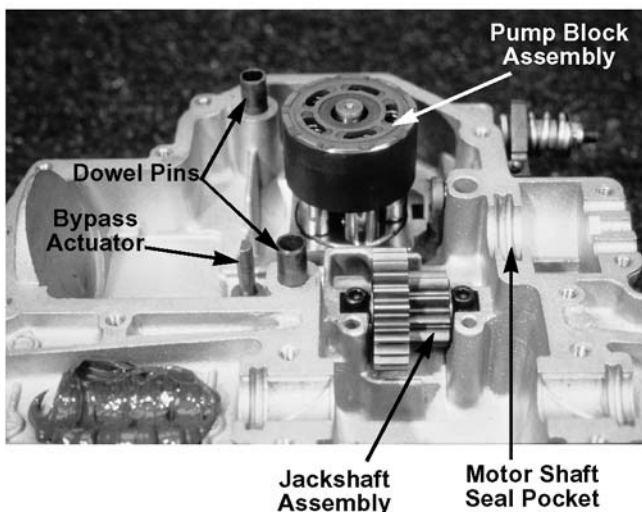

Figure 6-148
- E. Motor shaft seal pocket (check the middle of the seal pockets for a good crush ring) See Figure 6-148.